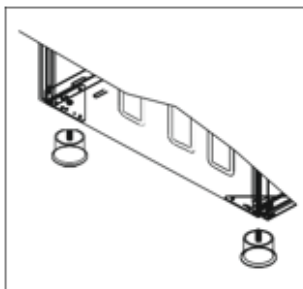

Figure 10
1. Foot attachment lath is installed on the oven from the bottom of the oven as shown in (figure 10). Nuts are centered on these lathes in order to screw feet. Complete the feet installation process by screwing the feet to the nuts (figure 11).